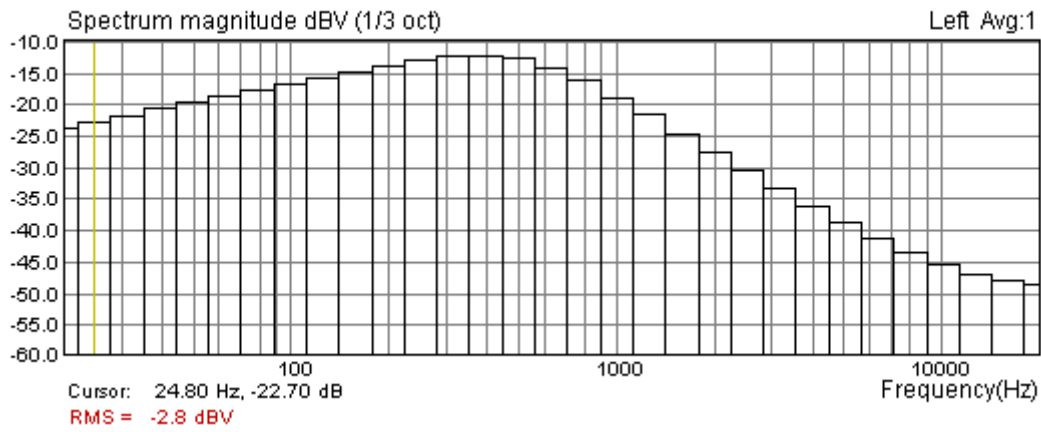

Figure 2.18 1/3-octave band spectrum of periodic "speech" noise
3. **Speech PN** - it has spectral magnitudes determined by IEC 60268-16 standard for Speech Transmission Index measurement (see Fig. 2.18).